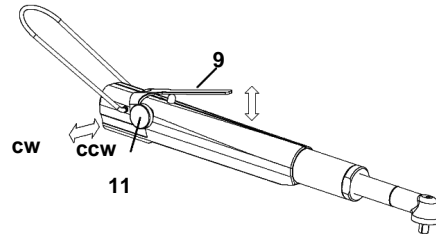

Fig. 7: Changing direction of rotation
Reversing the direction of rotation to counterclockwise is completed by pressing the valve knob (11) and valve lever (9) simultaneously. (see Fig. 7:)